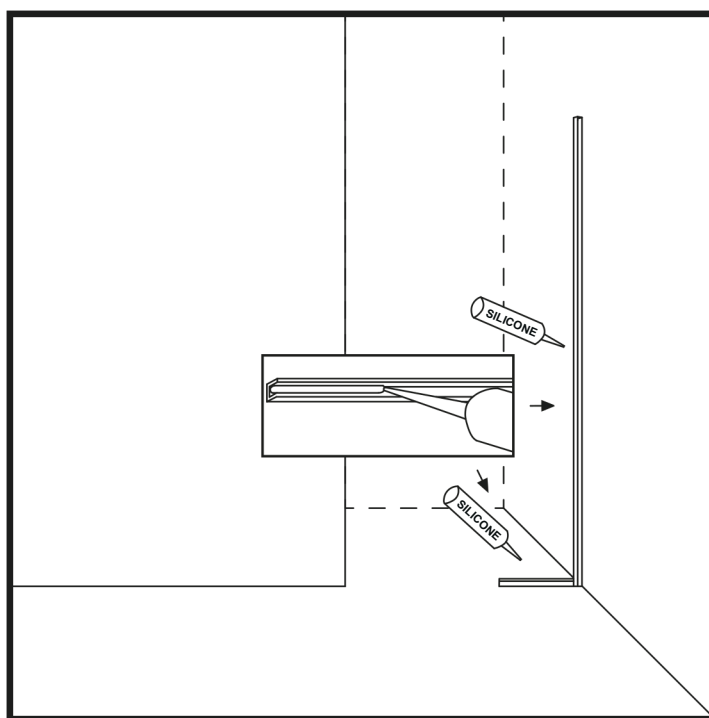

Figure 6
14. Fill the U-profiles on the wall and floor with an even silicone strip. (Figure 6)